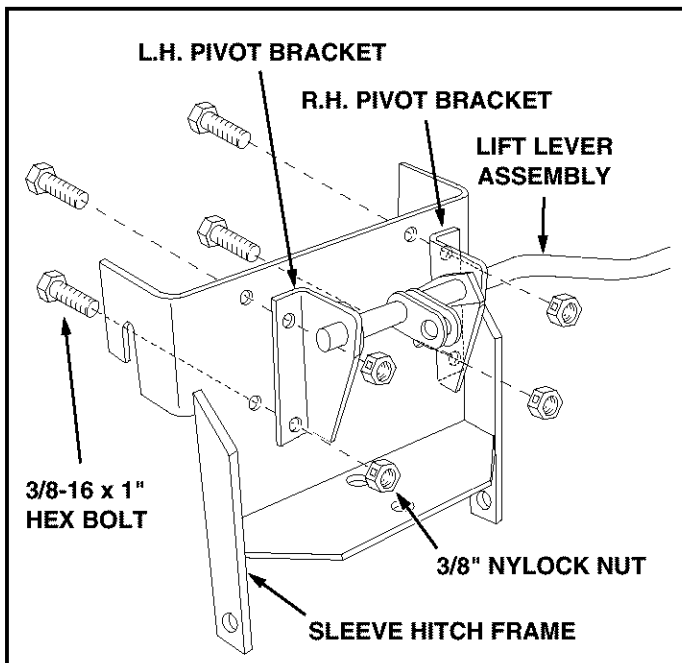

FIGURE 4
- Place the L.H. Pivot Bracket onto the end of the Lift Lever Assembly (the R.H. Pivot Bracket comes already installed on the assembly). See Figure 4.
- Attach the R.H. and L.H. Pivot Brackets to the Sleeve Hitch Frame Assembly using four 3/8" x 1" hex bolts and 3/8" hex lock nuts. See Figure 4.